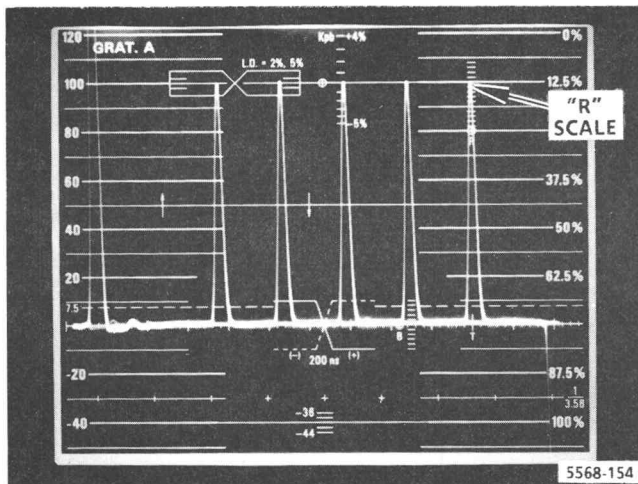

Fig. 4-16. Typical display when checking line time non-linearity.
- b. Set the waveform monitor volts full scale variable control so the smallest spike is 100 IRE in amplitude. This calibrates the divisions on the "R" scale to 2%. See Fig. 4-16.